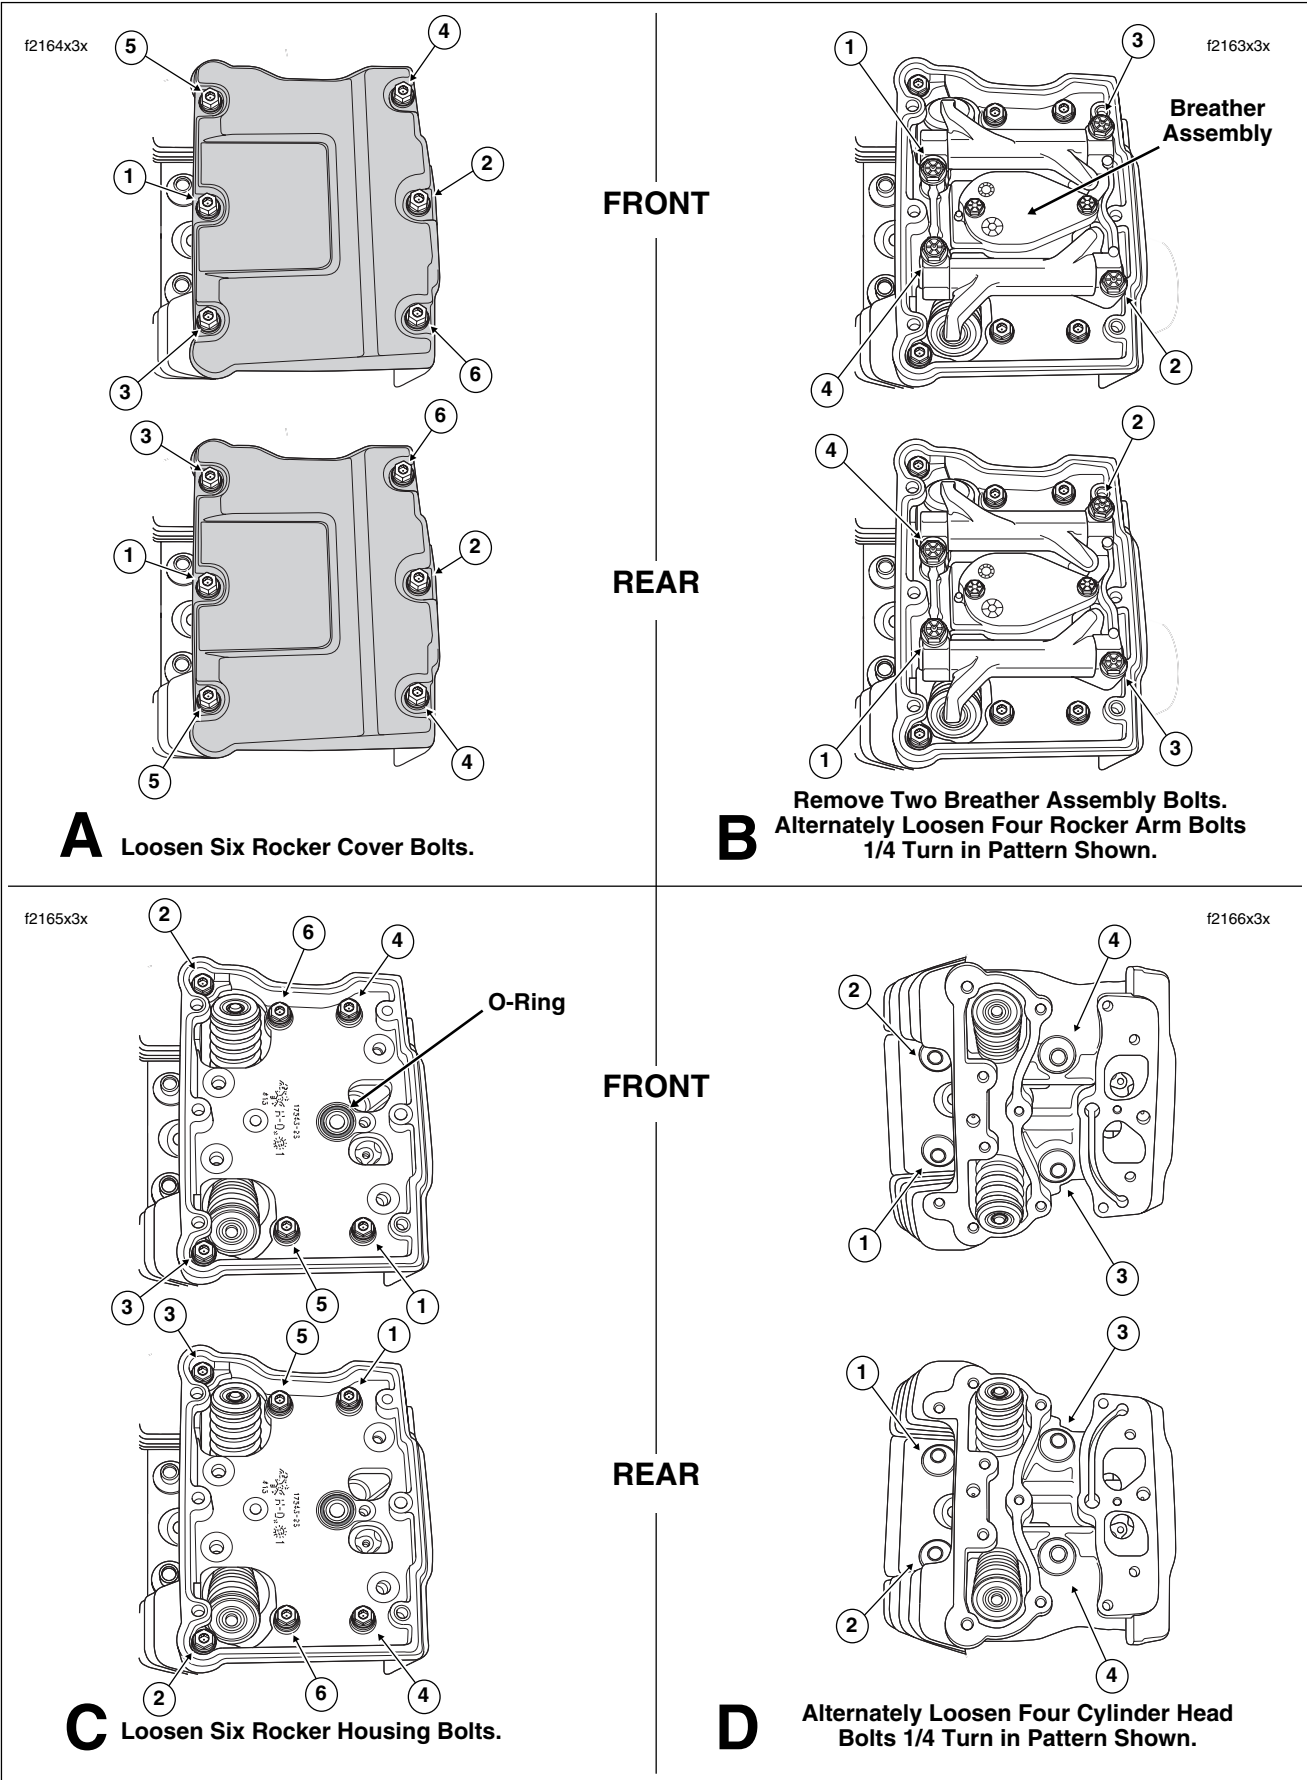

Figure 3-22. Top End Disassembly
2. Alternately loosen the six rocker cover bolts following the pattern shown in A of Figure 3-22. Remove the rocker cover bolts.
7. Remove two bolts to release breather assembly from the rocker arm support plate. See B of Figure 3-22. See Section 3.11 SUBASSEMBLY SERVICE AND REPAIR, BREATHER ASSEMBLY.
8. Alternately loosen each of the four rocker arm support plate bolts just 1/4 turn following the pattern shown in B of Figure 3-22. Continue turning the bolts in these increments until loose.
16. Alternately loosen the six rocker housing bolts following the pattern shown in C of Figure 3-22. Remove the rocker housing bolts.
18. Alternately loosen each of the four cylinder head bolts just 1/4 turn following the pattern shown in D of Figure 3-22. Continue turning the bolts in these increments until loose. Remove the cylinder head bolts.